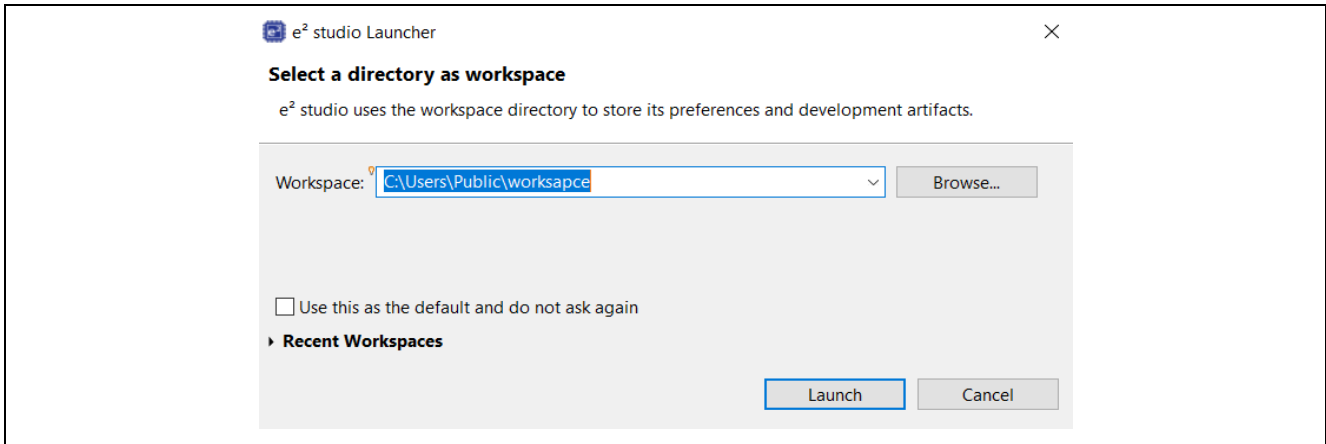

Figure 3. e² studio Launcher Dialog Box
- A. At the end of e² studio startup, you see the **e² studio Launcher** dialog box as shown in Figure 3.